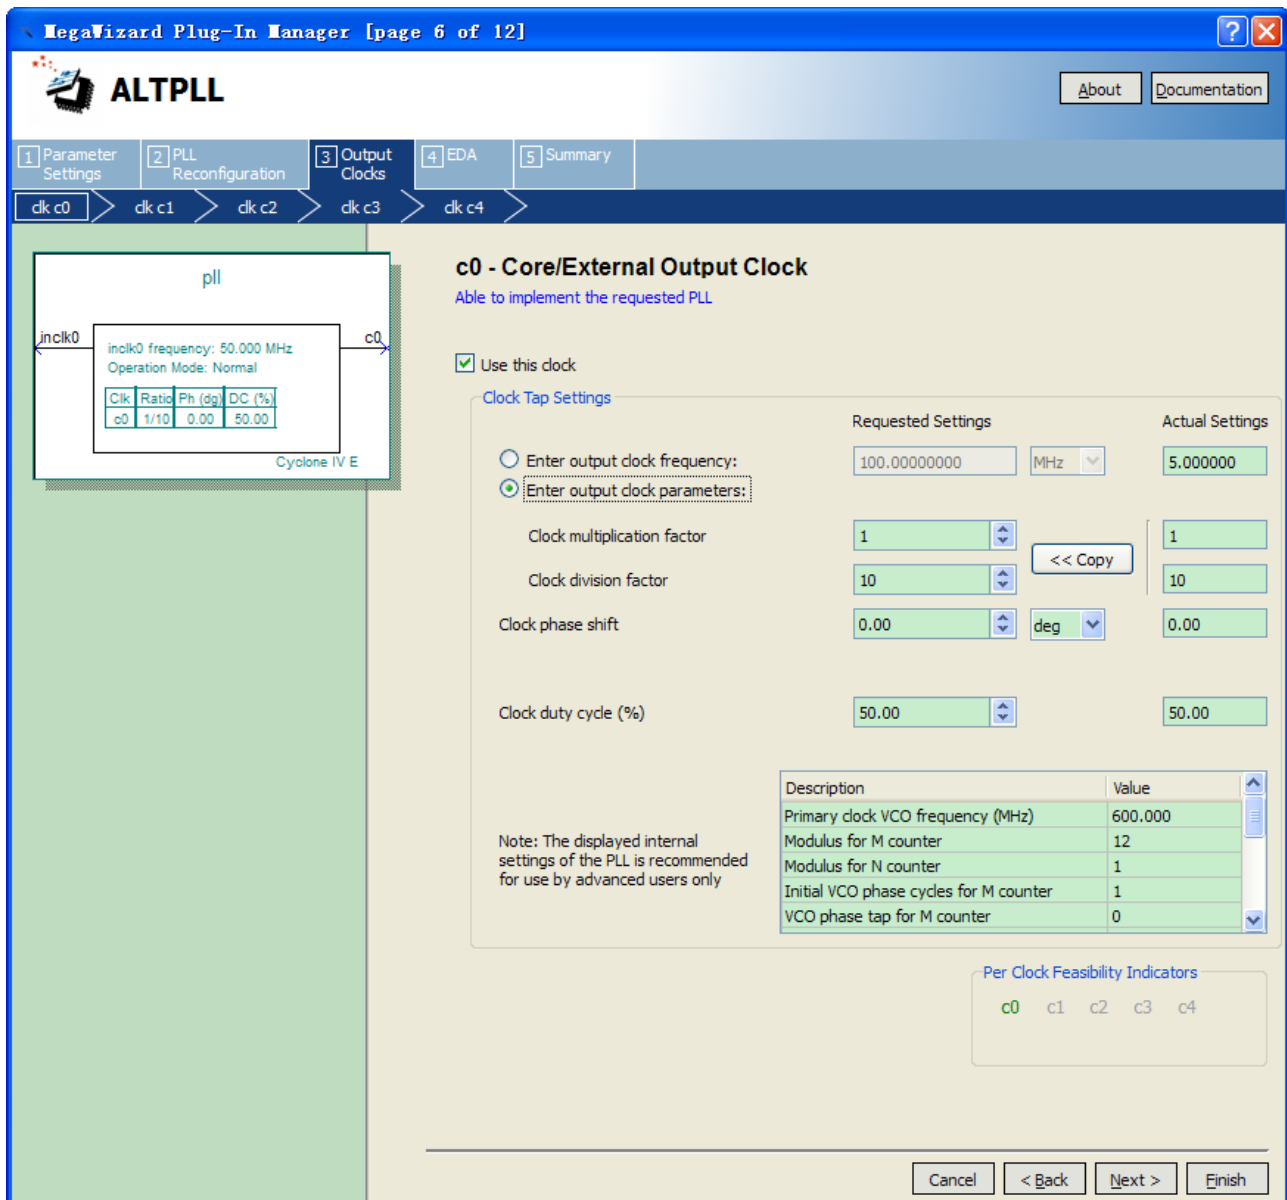

Figure 6-23 MegaWizard Plug-In Manager [page 8 of 14] Selections
- Set the Clock division factor to **10**, as shown in **Figure 6-23**.